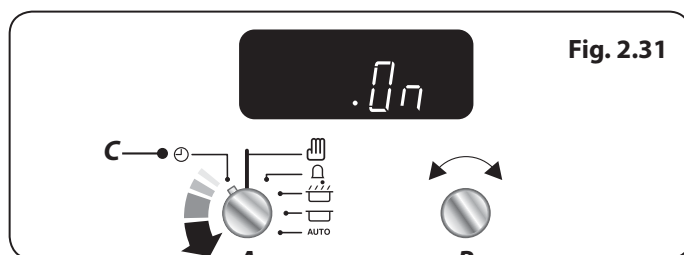

Fig. 2.31
2. Turn the **Timer (A)** knob to the **Clock (C)** setting and hold for approx. 8 seconds. The display will show 'ON' (Fig. 2.31).